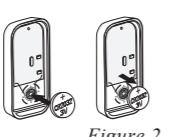

Figure 2
2. Install or replace the battery (Refer to Figure 2)